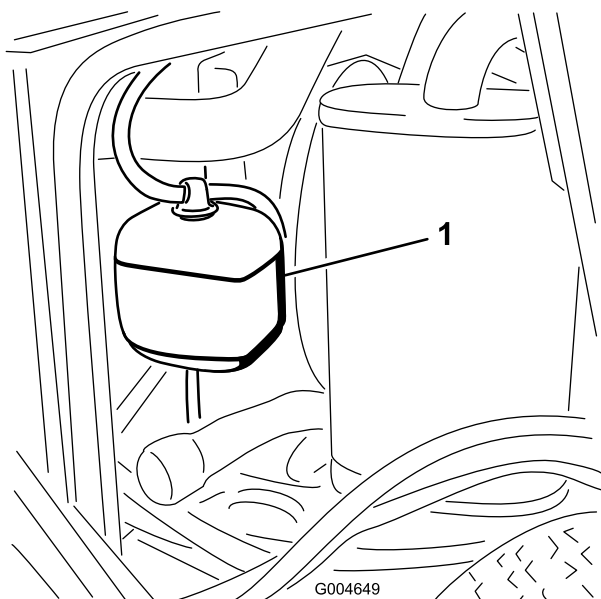

Figure 55
1. Check the level of the coolant in the expansion tank (Figure 55). The coolant level should be between the marks on the side of the tank.